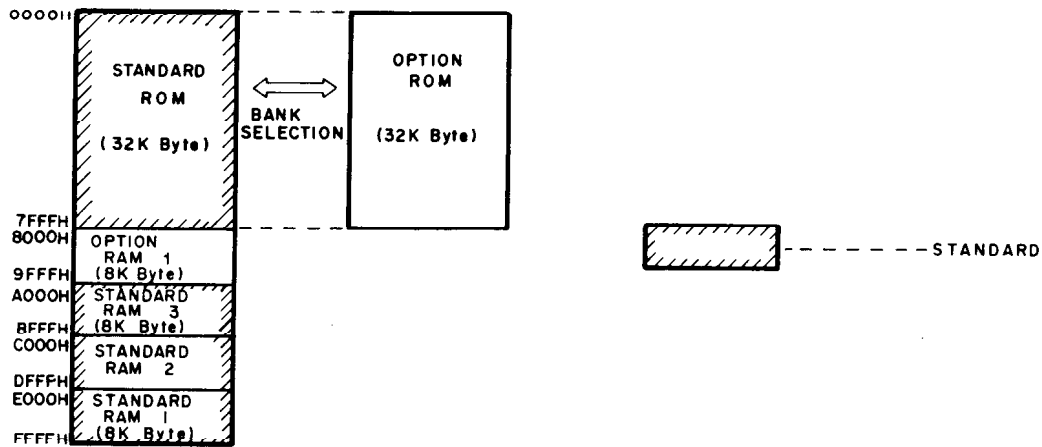

Figure 2-3. Memory Map
**ROM Chip Selection.** ROMs (both standard and optional) used in the Tandy 102 are the 32K 1-chip type. As shown on the Memory Map in Figure 2-3, the address space is positioned from 0000H to 7FFFH.